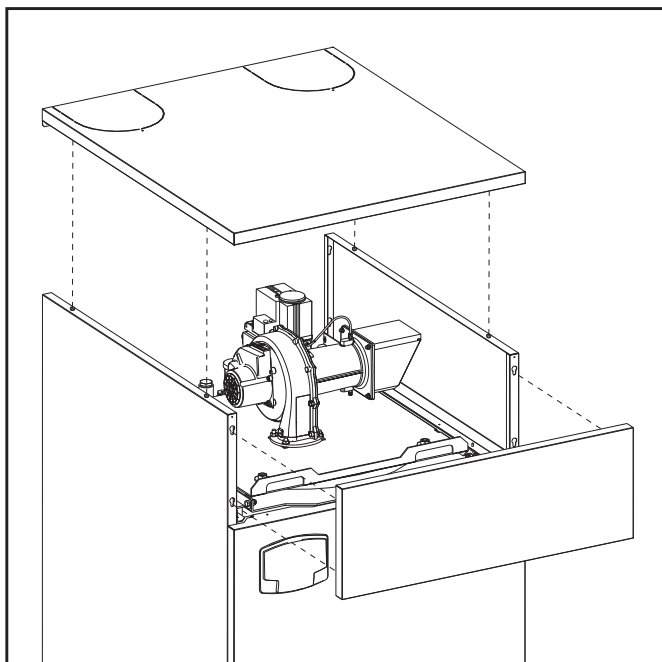

fig. 68
1. Remove the top front panel and cover (fig. 68).